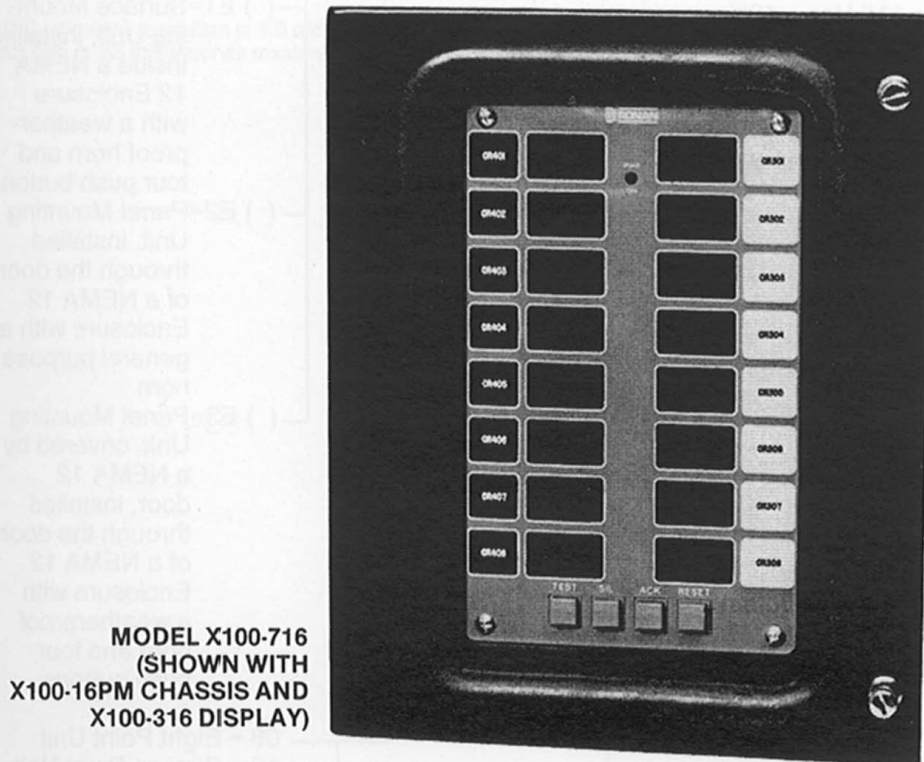

Figure 5-15. NEMA 12 Doors
The Model X100-708 and X100-716 NEMA 12 Doors, Figure 5-15, completely seal the front of the annunciator in panel mounting (PM) installations where the front of the unit is subjected to moisture or a corrosive atmosphere. The door assembly is supplied with a clear window and sealed with neoprene gaskets.